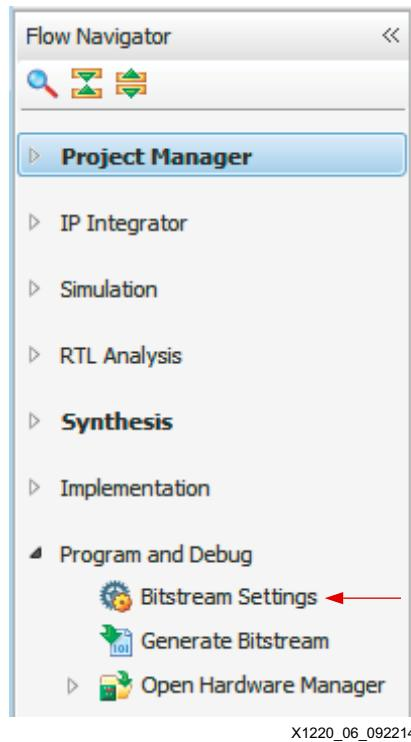

Figure 6: Flow Navigator Window
1. To modify bitstream settings in the Flow Navigator, locate the **Program and Debug** option and click the **Bitstream Settings** button as shown in Figure 6.